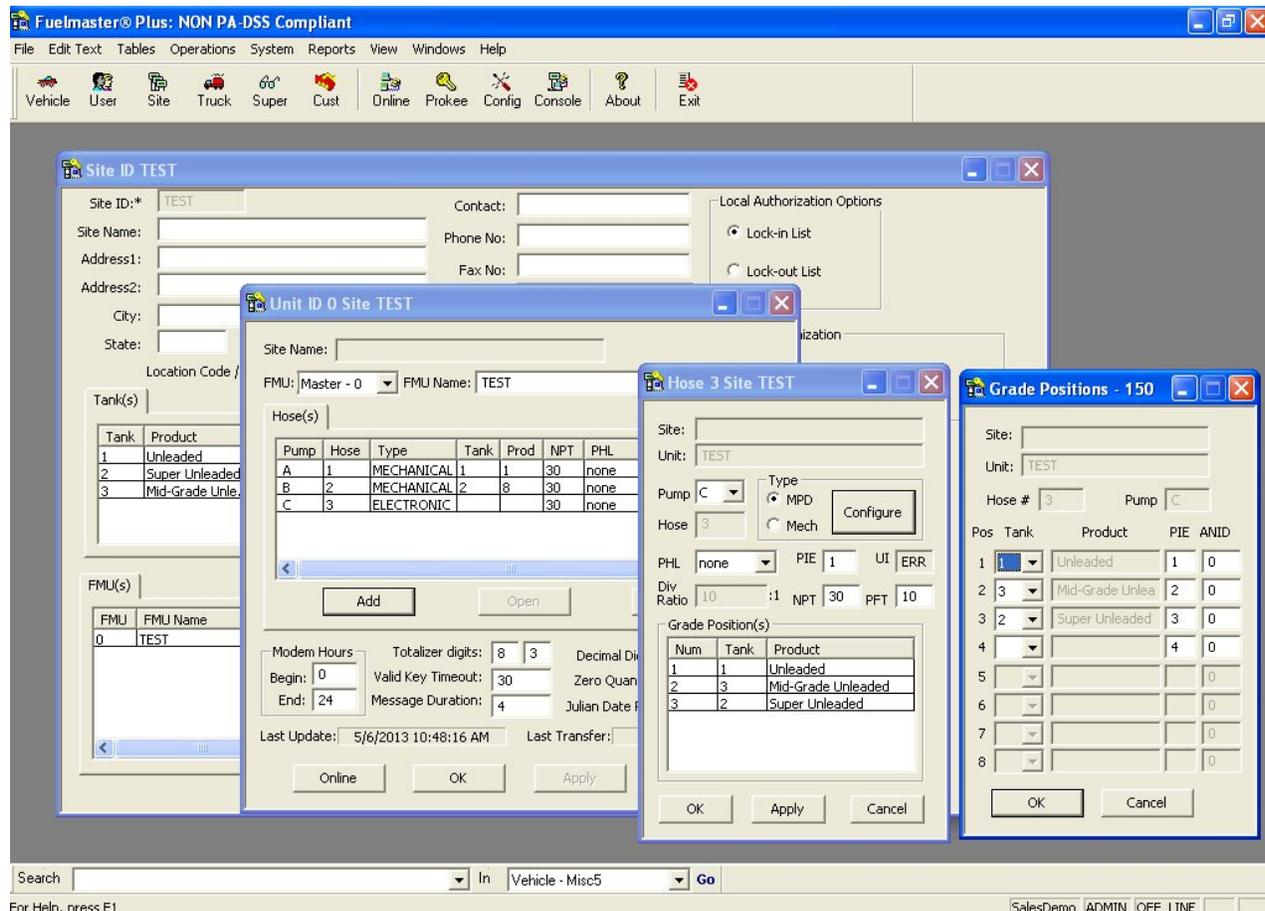

Figure H-9. Adding an Electronic Hose
6. **Add/Configure Electronic Fueling/Grade Positions**: the electronic hoses (fueling/grade positions) must be configured in the controlling FMU. Electronic hoses may be added to an FMU configured for mechanical hoses if there are enough hose positions remaining. See Figure H-9.